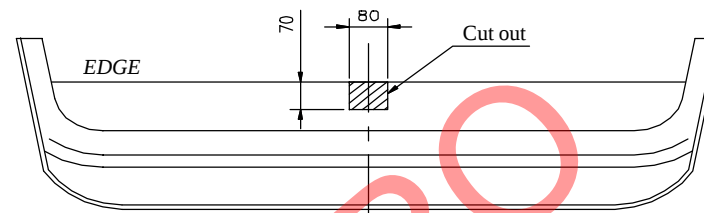

Fig. 2
2. In bottom part of the bumper cut out the hole as show in the fig. 2
4. Put bar of the towbar (pos. 1) into the chassis member and fix with bolts **M10x30mm** (pos. 7), use big washers $\varnothing 35 \times \varnothing 12 \times 3 \text{ mm}$ (pos. 11).
5. Put brackets (pos. 4 and 5) to the rear piece and fix it through holes pos. A to the bar of towbar using bolts **M8x30mm** (pos. 8), use big washers $\varnothing 25 \times \varnothing 9 \times 2 \text{ mm}$ (pos. 12).
6. Through holes (pos. B) in brackets (pos. 4 and 5) fix nuts **M8** with big washers $\varnothing 25 \times \varnothing 9 \times 2 \text{ mm}$. Take care at the torque moment - **10 Nm**.
7. Through holes (pos. C) in brackets (pos. 4 and 5) make holes with drill $\varnothing 9 \text{ mm}$, and next fix with bolts **M8x30mm** (pos. 8).
8. Fix body of the automat (pos. 9) and the socket plate (pos. 3) using bolts **M12x25mm** (pos. 6) from accessories. Place tow-ball (pos. 2) according to supplied instruction.